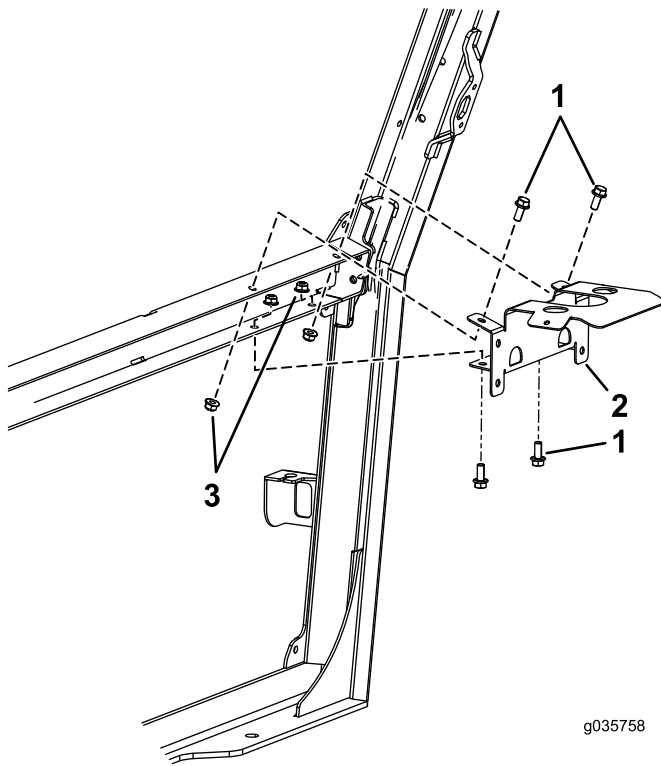

Figure 6
1. Install the bracket to the frame with 4 bolts (5/16 x 3/4 inch) and 4 flange nuts (5/16 inch) as shown in Figure 6.